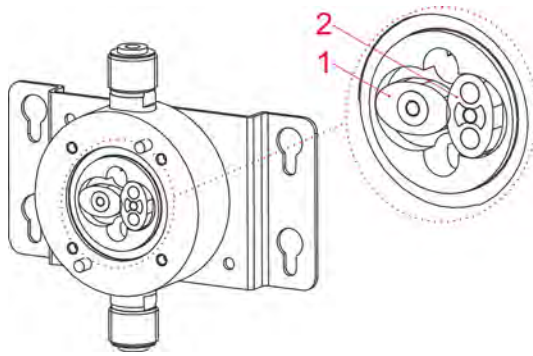

Fig. 5: Oval Gear Wheel
*The oval gear wheel with the welded-in magnets (Fig. 5, Pos. 2) must be positioned below the sensor at the Housing cover. The small plates of this oval gear must point downwards.*